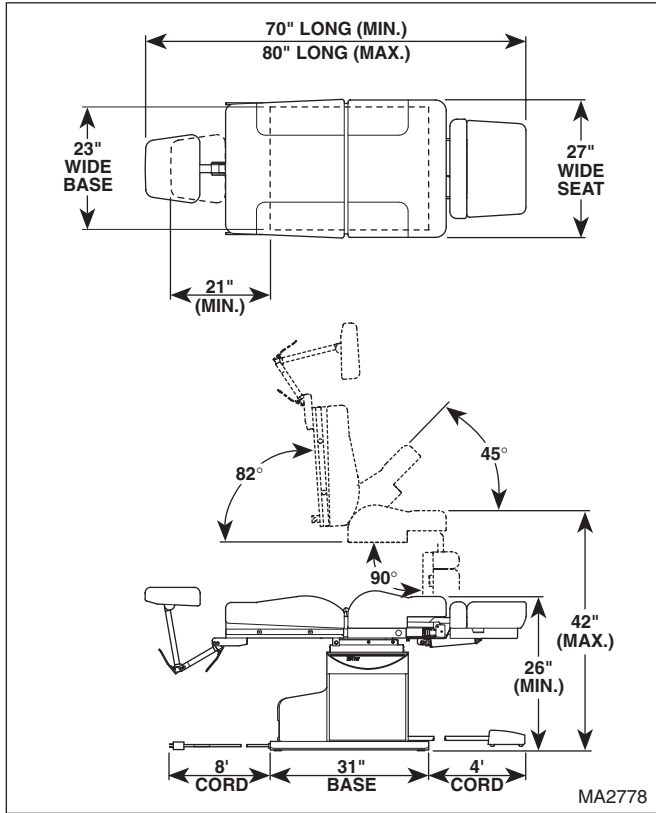

Figure 1-2. Chair Dimensions
1.4 SPECIFICATIONS (See Figure 1-2)